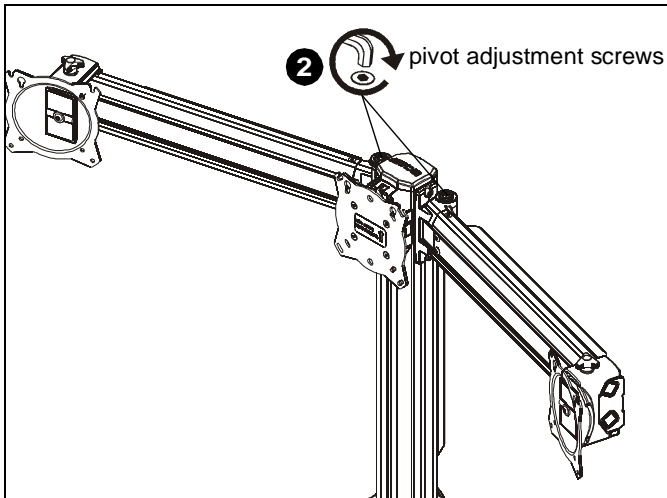

Figure 10
- When arms are at desired pivot position, lock pivot position by tightening pivot adjustment screws using 5/16" hex key (N). (See Figure 10)